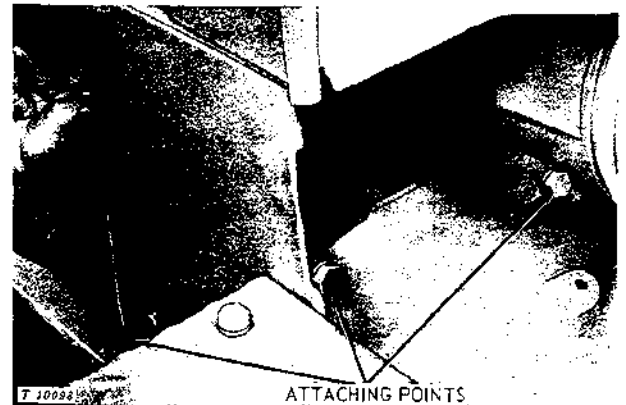

Fig. 20-5-6—Engine Attaching Points
19. Remove two cap screws under cowl support attaching clutch housing to engine (Fig. 20-5-6).